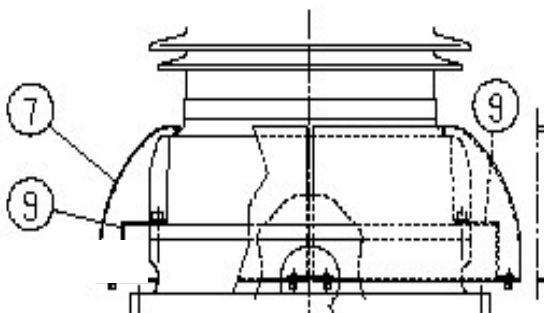

Fig. 11
Bushing 550 kV, porcelain design, with high requested withstand switching impulse ≥ 1300 kVp and low radio interference voltage level (R.I.V. $< 500 \mu V$), is equipped with a bottom shield made from two pieces (items 7-8 - fig. 11).
The assembling has to be performed by fixing each shield part on the six "Z" shaped plates (item 9 - fig. 11), already fixed to the bottom flange. The two shield parts are then to be fixed together through two additional plates (item 10 – fig. 11 detail A), positioned on their junction place.